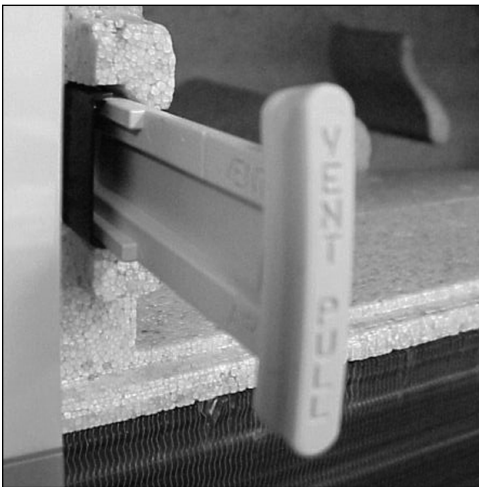

FIG. 1
- While holding dial plate in place install control knobs on protruding stems (Fig. 1).